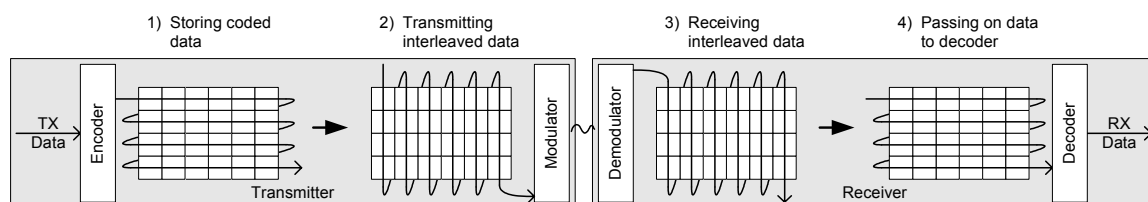

Figure 12: General principle of matrix interleaving
**CC2550** employs matrix interleaving, which is illustrated in Figure 12. The on-chip interleaving and de-interleaving buffers are  $4 \times 4$  matrices. In the transmitter, the data bits are written into the rows of the matrix, whereas the bit sequence to be transmitted is read from the columns of the matrix and fed to the rate  $\frac{1}{2}$  convolutional coder. Conversely, in a **CC2500** receiver, the received symbols are written into the columns of the matrix, whereas the data passed onto the convolutional decoder is read from the rows of the matrix.